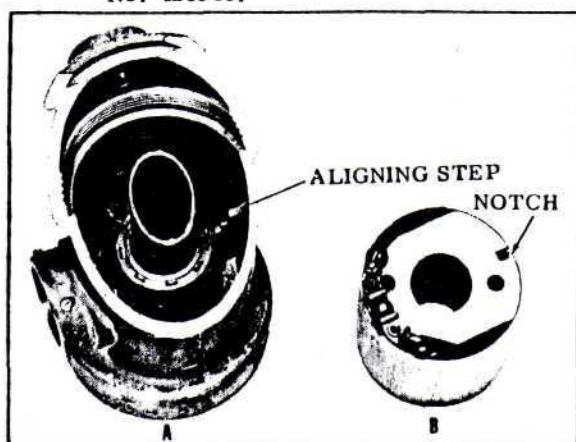

FIGURE 15
2. Looking into the bottom of the pump body, note that the rib directly opposite the switch opening (A, Figure 15) has an aligning step on it. The notch in the top of the coil (B, Figure 15) should rest on this aligning step when the coil is properly seated.